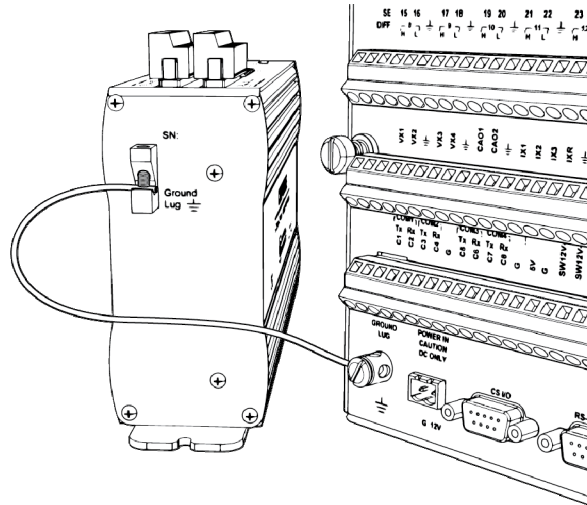

FIGURE 6-13. Earth ground connections
8. As shown in FIGURE 6-13, connect earth grounds.